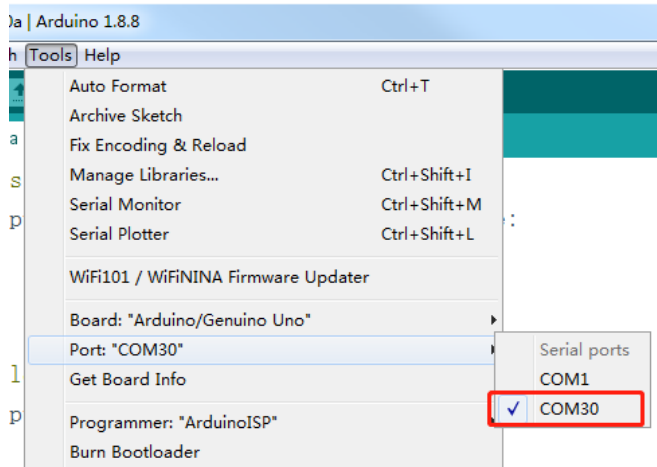
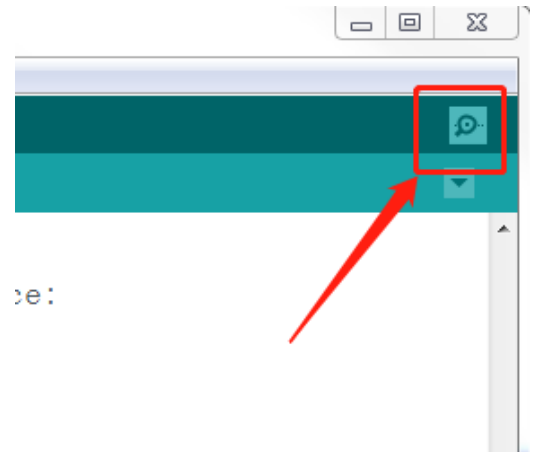

Figure 1.9
Figure 1.10
- 1) Open the Arduino IDE, connect the serial port as shown in figure 1.9, and open the serial port monitor as shown in figure 1.10.